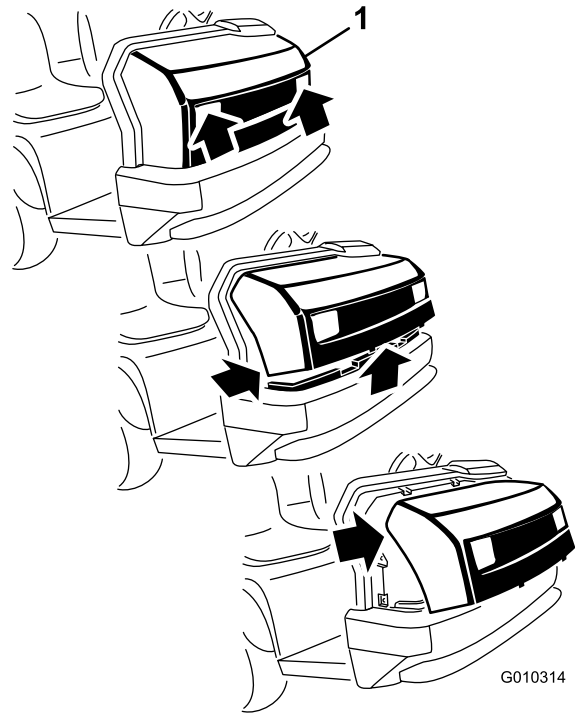

Figure 35
1. While grasping the hood in the headlight openings, lift up on the hood to release the lower mounting tabs from the frame slots (Figure 35).
2. Pivot the bottom of the hood upward until the top mounting tabs can be pulled from the frame slots (Figure 35).
3. Pivot the top of hood forward and unplug the wire connectors from the head lights (Figure 35).